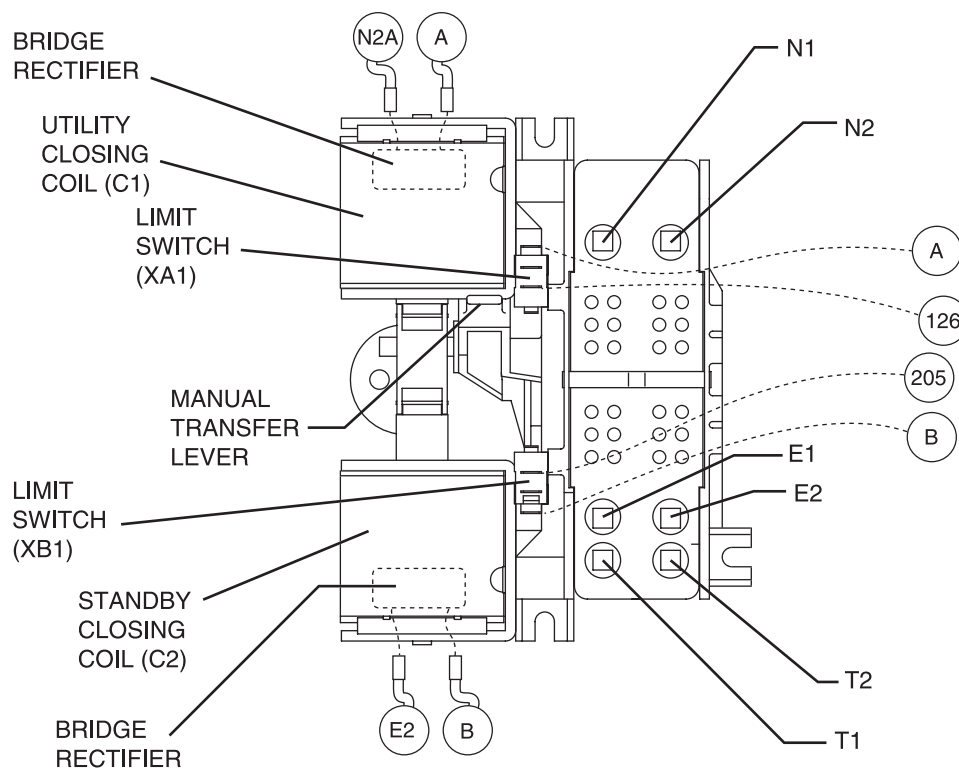

Figure 1. The "V-Type" Transfer Mechanism
6. Locate on the standby closing coil the terminal that Wire B is connected to. (Figure 1, previous page). Connect the other meter test lead to this terminal. Generator line to line voltage should be indicated. If generator voltage is NOT indicated, proceed to Step 7.
7. With Wire E2 still connected to one test probe, connect the other meter test lead to Wire 205 on Limit Switch XB1 (see Figure 1 on previous page). Generator line to line voltage should be measured.